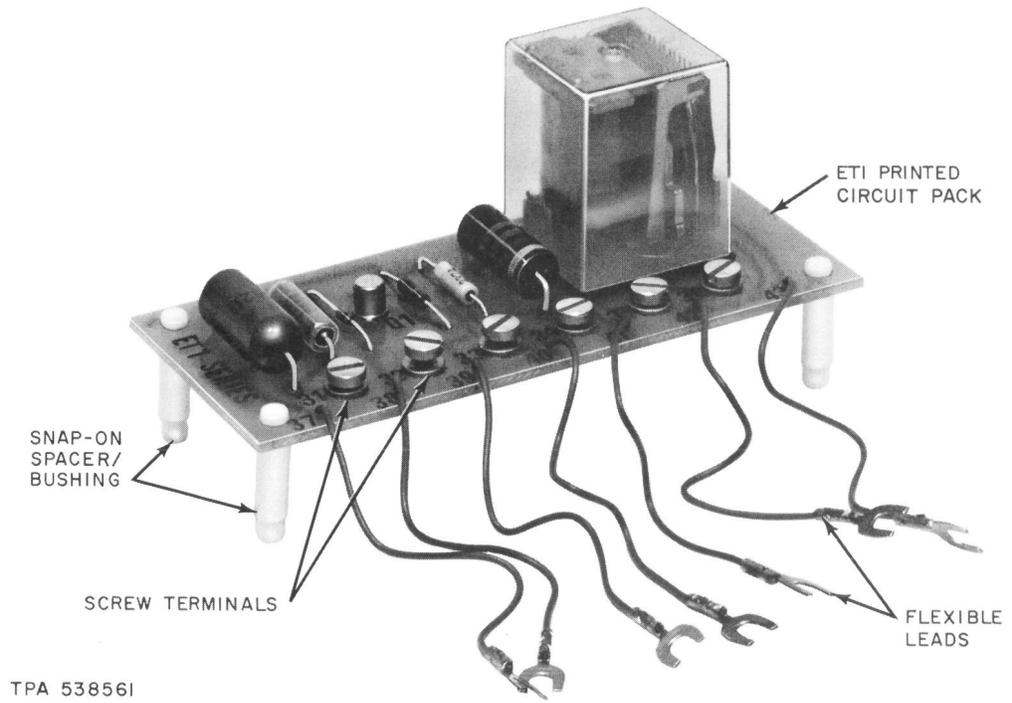

Fig. 2—Circuit Pack ET1
2.02 Data Set 109C-L1/2 consists of a Data Set 109C-L1 and an ET1 circuit pack mounted on the EU1 circuit pack. The ET1 circuit pack is mounted by means of spacer/bushings which snap into holes provided in the EU1 circuit pack. Interconnections to the ET1 circuit pack are made through screw terminals and spade-tipped leads on the rear of the ET1 circuit pack (Fig. 2 and 3).